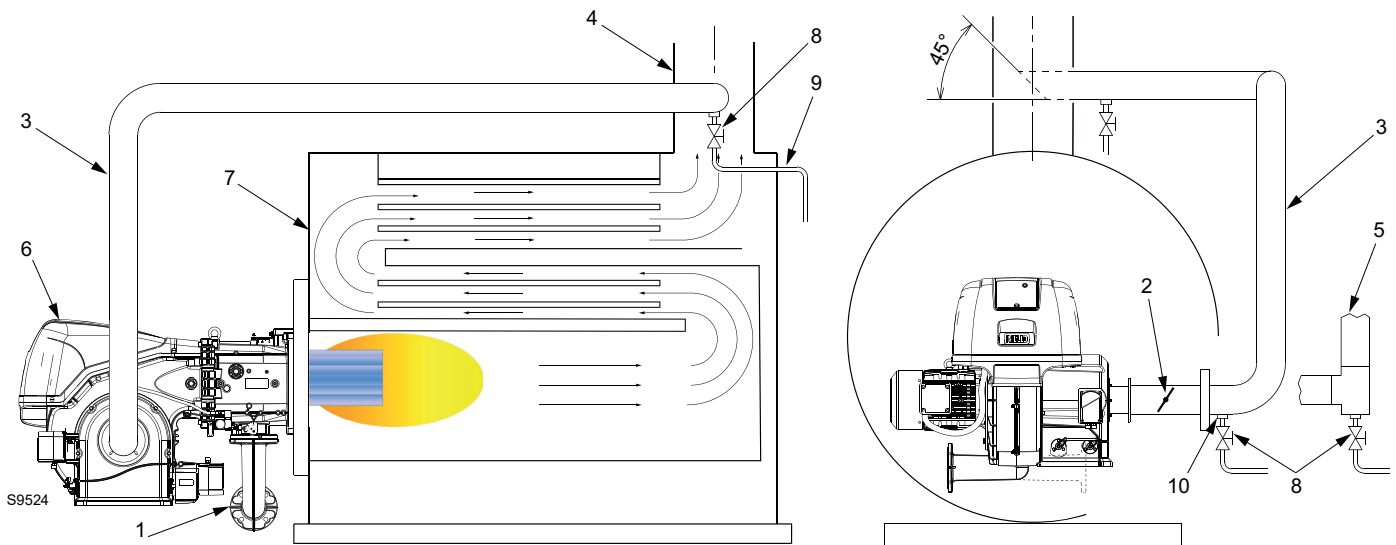

Fig. 17
- Normally the duct would connect to the stack as shown in Fig. 17, with a 45° cut facing the flue gas flow and with the centre of the cut centred in the stack. The duct could be made to the smoke box, but must still be located with the same 45° cut facing the flue gas flow stream and with the centre of the cut in the centre of the stream.
Key (Fig. 17)